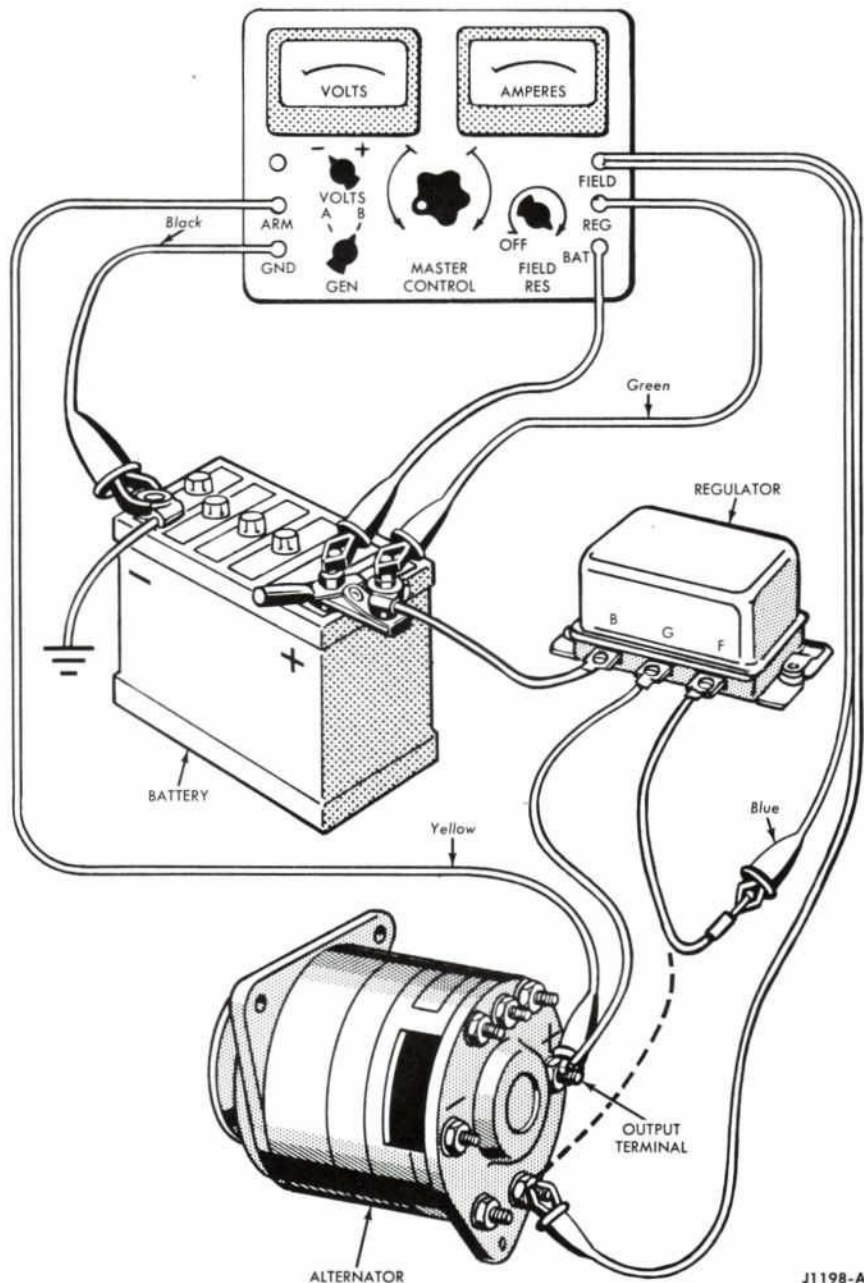

FIG. 38— Alternator Output Test Connections
3. Make the connections as shown in Fig. 38.
The connections for this test are the same as the connections for the alternator output test (Fig. 38).
The connections for this test remain the same as for the voltage limiter test (Fig. 38).